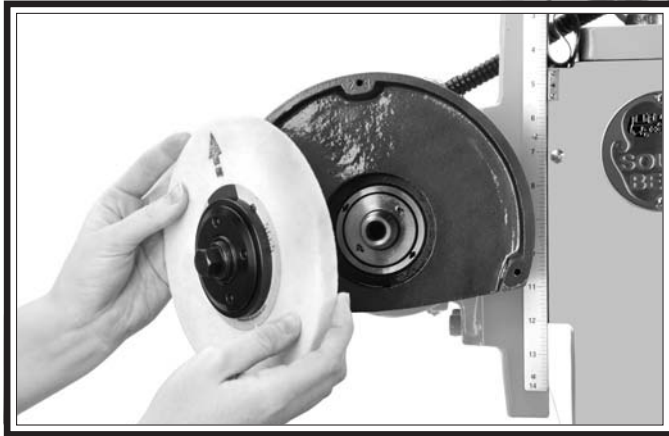

Figure 27. Wheel and hub removal.
9. Set the wrenches aside and carefully remove the wheel and hub assembly with the hub puller still installed (**Figure 27**).